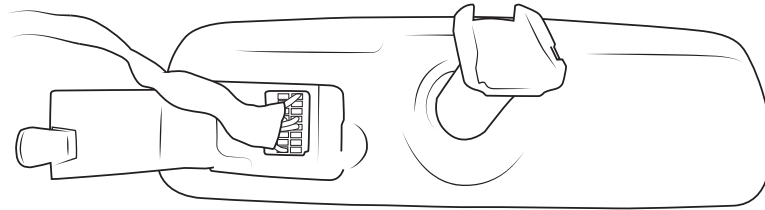

Figure 14
9. Plug connector into back of Display Mirror (fig. 14) and mount to windshield.